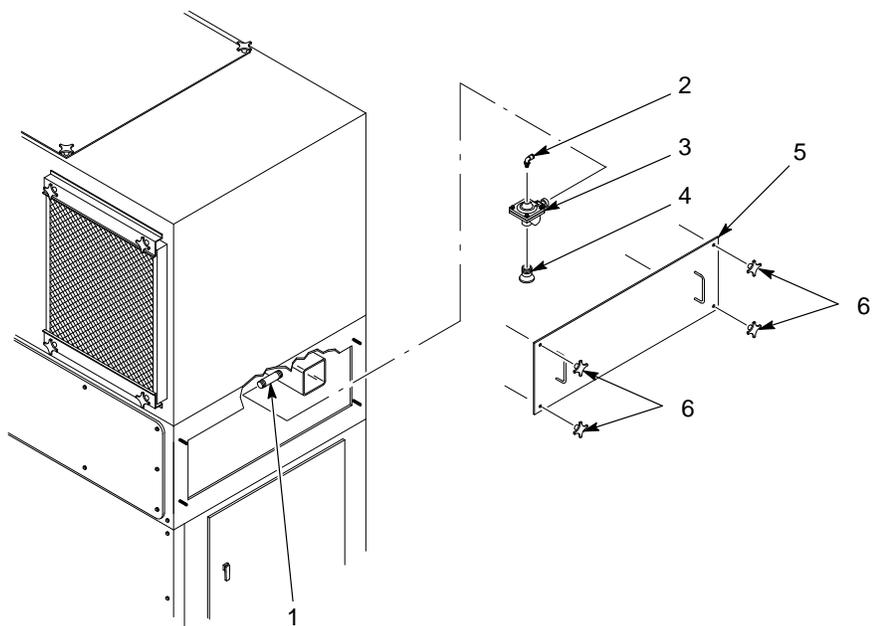

Figure 8-3 Pulse Valve Replacement
2. See Figure 8-3. Remove the pulse valve access panel (5) by removing the four knobs (6).
3. Disconnect the air tubing from the pulse valve's elbow fitting (2).
4. Unscrew the pulse valve (3) from the nipple (1).
5. Remove the nozzle (4) and elbow from the pulse valve.